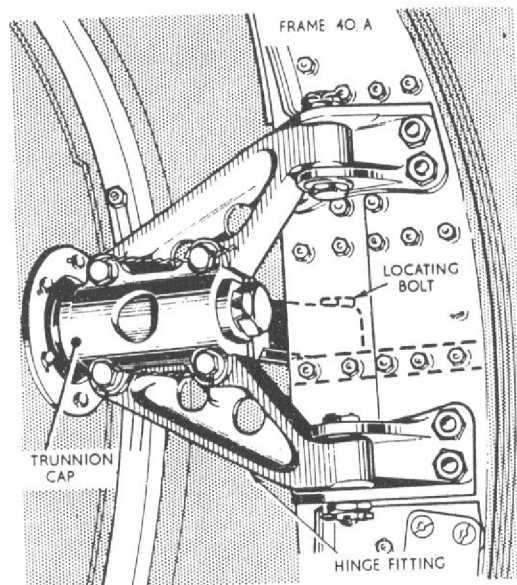

Fig. 16. Rear Engine Mounting
- (11) Lower the trolley on to its wheels, roll it forward, and jack it again, so that the centre rail web boss engages with the engine rail lug on the aircraft. Align the engine rear roller rails with the engine rear rollers, ensuring that the trolley is level fore and aft. Lock the trolley to frame 40A by inserting the split bolt in the engine rail lug. Unlock and remove the four bolts securing the engine mounting trunnion caps. Remove the trunnion caps and the locating nuts and bolts (fig. 16), enabling the hinge fittings to swing clear as the engine is withdrawn.